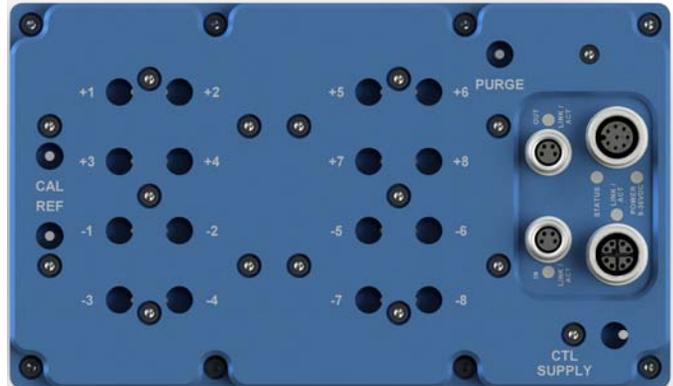

FIGURE 2.3 - DSA5000 TRUE DIFFERENTIAL 8DPX TOP VIEW
For true differential pressure measurement applications, the DSA5000 can be configured with eight (8) true differential pressure transducers. They are arranged into two (2) groups of four (4) transducers. Each transducer will have a discrete input for the positive and negative side of the transducer for a true differential pressure measurement between two points. Like the DSA5000 Standard 16Px, each group of transducers has a dedicated calibration valve that allows the input pressures to be blocked off during any calibration, including a zero offset calibration (CALZ). In calibrate mode, the reference ports will all be manifolded to a single reference port. Figure 2.3 depicts the top panel of a DSA5000 True Differential 8DPx module.